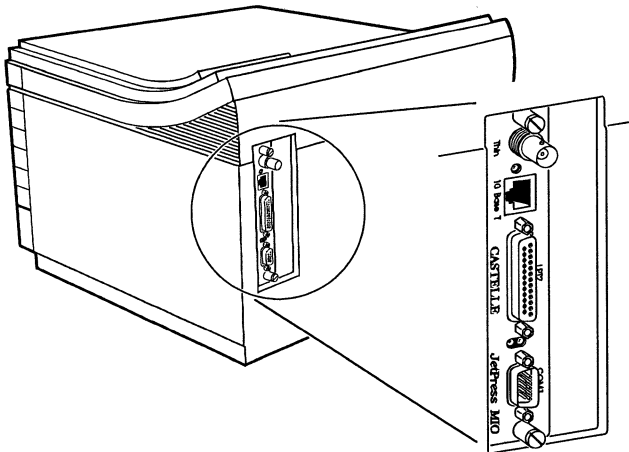

Figure 1-3. JetPress MIO PLUS (JetPress MIO Similar; Shown installed in HP LaserJet 4)
**JetPress MIO PLUS** is a JetPress MIO board that lets you connect a total of three printers to the network: the host print device, plus 2 additional printers. The additional printers are connected to the board's parallel and serial ports (LPT2 and COM1). Figure 1-3 shows a JetPress MIO PLUS.